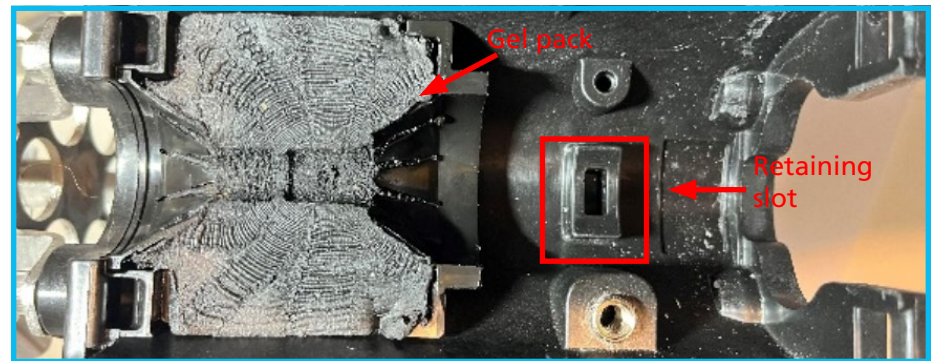

Figure 7.2
2. Ensure the removable gel pack is in position [figure 7.2].
3. Lay the CAU with attached cable into the cable port on top of the gel pack. Ensure the CAU is fully engaged in the retaining slot [figure 7.2].